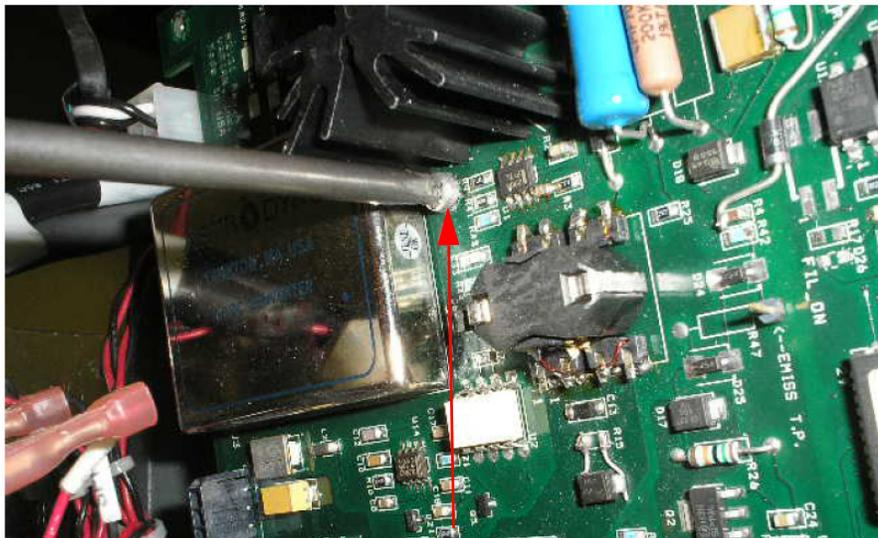

Figure 1-14 Electronics Assembly Center Screw
- d. Removing the center screw by slightly elevating the electronics assembly from its natural rest position (Figure 1-14).